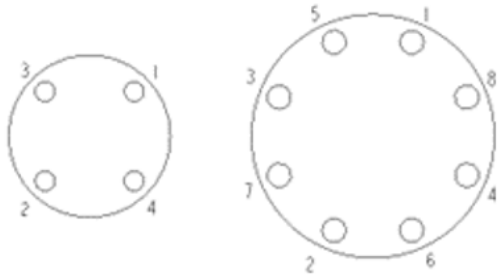

Figure 1: Bolt Tightening Sequence
- 1.2.4.3.2. Flange bolts should be tight enough to compress the gasket and make a good seal, without distorting or putting excessive stress on the flanges. Suitable washers should be used between the bolt head and flange and the nut and flange. Bolts should be tightened in alternating sequence (Figure 1). See Table 1 for recommended torque.